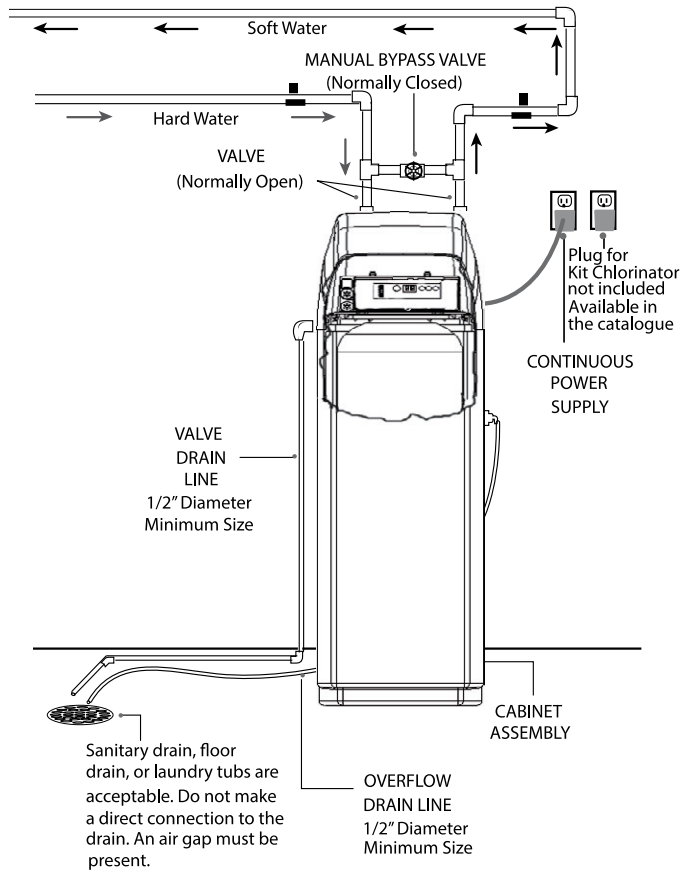

Figure 6
4. Shut off the water to the home. Open the highest faucet in the plumbing system and then the lowest (you cannot work on pipes with water in them). Make necessary piping changes for connection of the filter to the plumbing of the home (see Figure 6).
7. Connect the inlet and outlet piping. The valve back plate threads are 3/4" BSPT. Be sure you have the incoming water connected to the right side (Figure 6).
### Typical Drain Hookups (Figure 6)